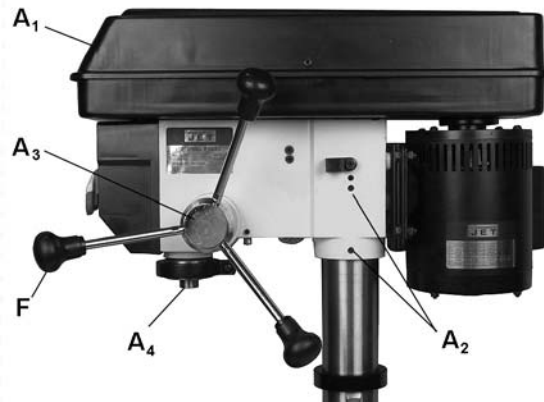

Figure 5
1. With the aid of a second person, carefully lift *head* onto *column top* (Figure 5).
3. Tighten two *set screws* (A₂, Figure 5) with a 5mm wrench until they are snug.
Refer to Figures 5 and 6:
1. Adjust position of table to approximately seven inches below *spindle assembly* (A₄, Figure 5) and lock in place.